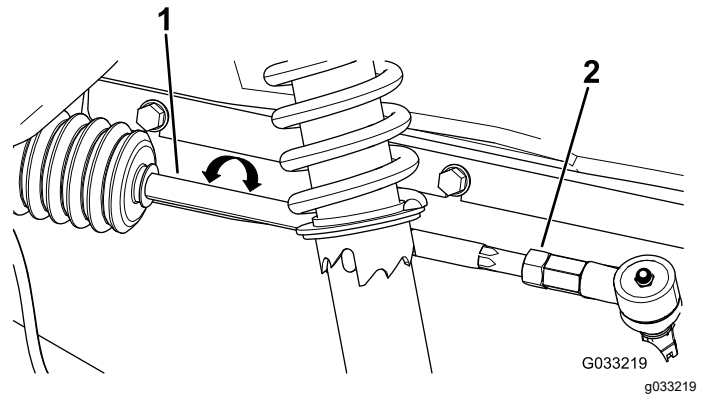

Figure 54
2. If the measurement does not fall within 0 to 6 mm (0 to 1/4 inch), loosen the jam nuts at the outer end of the tie rods (Figure 54).